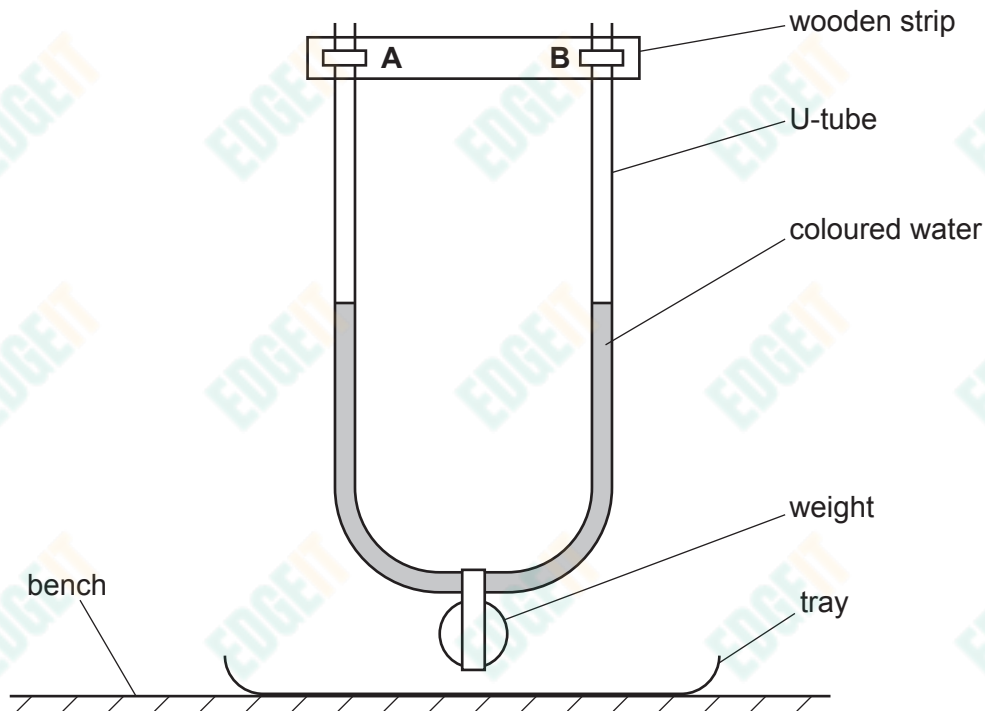

Fig. 1.1
- (a) (i)** You have been provided with a U-tube containing coloured water. The U-tube has two sides, **A** and **B**, as shown in Fig. 1.1.
The wooden strip is supported by a stand and clamp (not shown in Fig. 1.1).